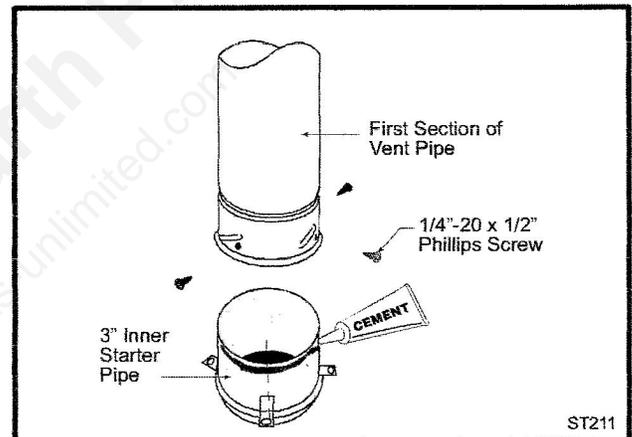

Fig. 24 Connect the inner starter with the next section of inner vent pipe.
- Drill three pilot holes into the Inner Starter and secure the assembly with three sheet metal screws. (Fig. 24)